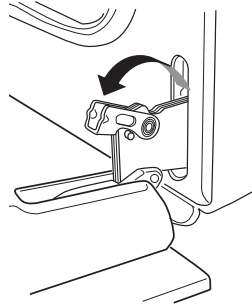

Fig. 2
3. lift and turn the levers on the two hinges (Fig. 2);